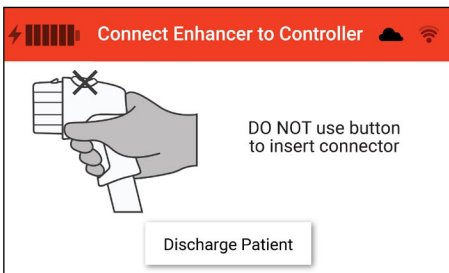

Figure 24. Enhancer disconnected alert screen
2. If the Keep Enhancer Connected Prompt is not addressed for five (5) minutes, an auditory alert will occur for three (3) minutes and repeat every hour that the alert is active. (Fig. 24)